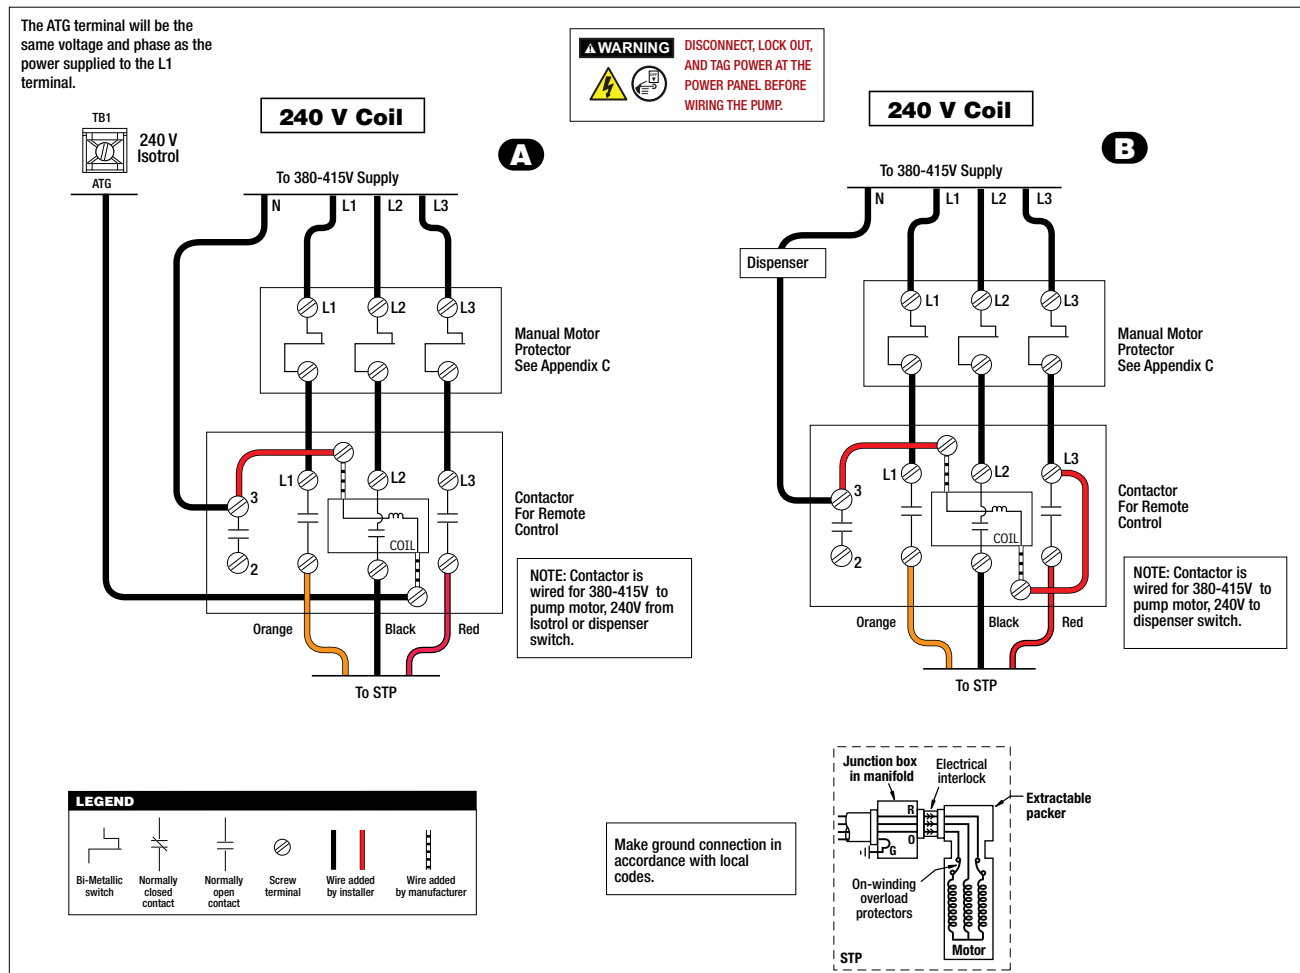

Figure 17. Three Phase Pump Wiring Diagram Examples
10. Refer to Figure 17 for three phase pump example wiring diagrams.
Connect the pump leads to terminal T1, T2, and T3 of the contactor observing color code shown in Figure 17 A and B. With ample product in the tank and the system purged of air, start the pump and make a pressure gauge reading of the system pressure with the ball valve closed; or, open valve and calculate pumping rate.